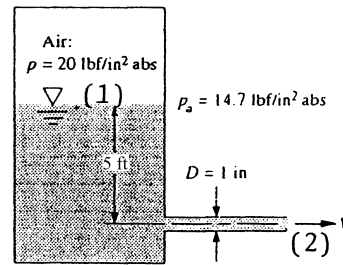

Fig. P3.163
**3.163** The liquid in Fig. P3.163 is kerosine at 20°C. Estimate the flow rate from the tank for (a) no losses and (b) pipe losses  $h_f \approx 4.5V^2/(2g)$ .
**Solution:** For kerosine let  $\gamma = 50.3 \text{ lbf/ft}^3$ . Let (1) be the surface and (2) the exit jet: